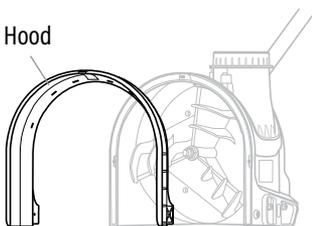

Fig. 5A
2. Keep in line with the hood and the groove on the bottom of the attachment. (Fig. 5A)